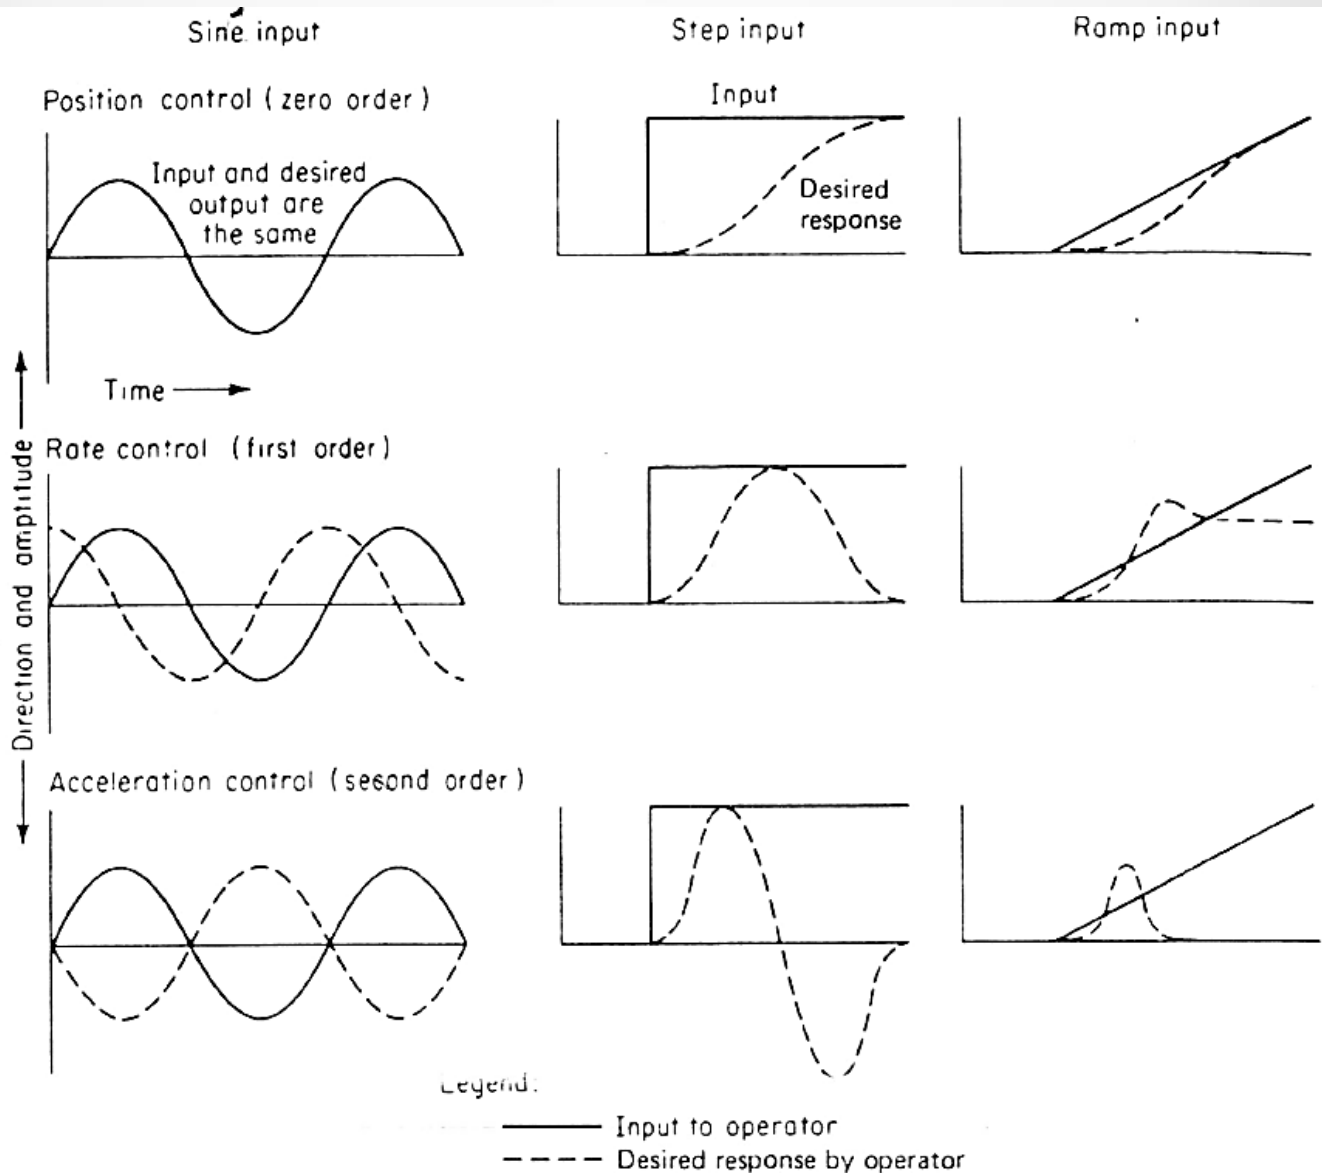

FIGURE 10-11.
- e.g. appropriate response for ramp, step, and sine inputs with: position, rate, and acceleration control systems (Figure 10-11)
- Consider step input: (middle column in Figure 10-11)